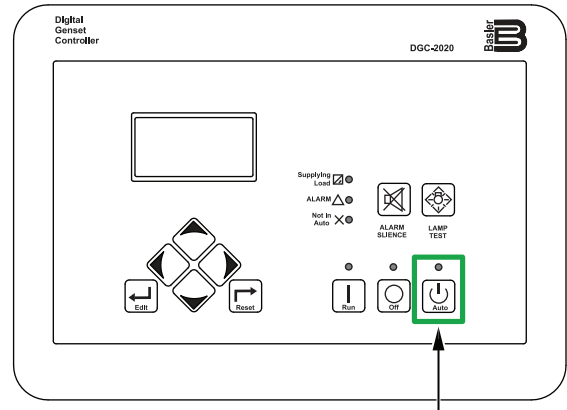

Figure 48. Digital Controller (Auto Button)
2. Press the **Auto button** (Figure 48) on the digital controller. Once the start signal is received (the remote-start contacts are closed), the pre-heating process will begin. When the pre-heating process has completed, the engine will start automatically and accelerate to rated speed. When the remote-start contacts are opened, the engine will stop.